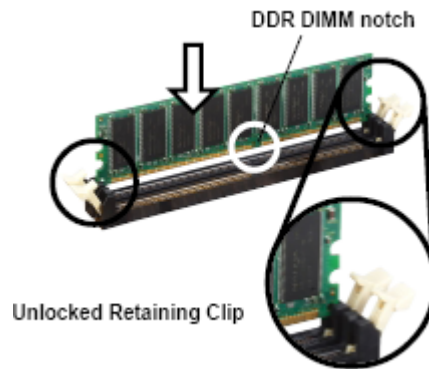

Figure 4-10: Installing the DIMM Module
Step 1: Make sure the two handles of the DIMM socket are in the "open" position, leaning outward (**Figure 4-10**).